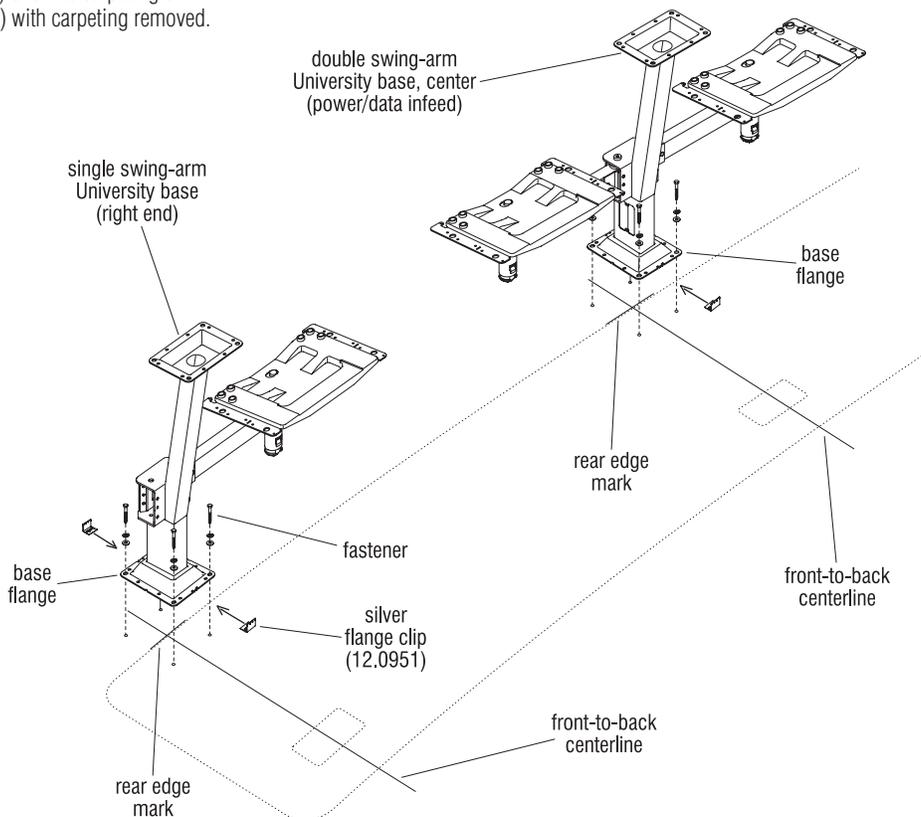

Figure 2
4. Identify which type of bases are to be installed (single or double swing-arm, and/or power infeed) along with their location according to the space-planning layout. Set the bases out at the appropriate locations. Carefully move the worksurfaces forward to make room for installation of the bases to the floor (Figure 2).
b. Position the base onto the floor over the front-to-back centerline and base position mark where the base will be installed. With the base correctly centered over the marks and lined up with the front-to-back centerline, mark around the perimeter of the base for removal of the carpeting. Cut and remove the carpeting. Carefully align the base flange onto the floor as described above and mark the anchor hole locations onto the floor (Figure 2). Read the note below and go onto step 6.
6. Bore anchor holes to minimum 1/4" x 2 3/4" hole depth for concrete floors, or 9/32" for wood floor, with flat and locking washers (not included). As illustrated, before base is attached to floor, place a flange skirt over the bottom of the base and lift it out of the way for the time being. Align the base over the pre-drilled holes and drive in (do not tighten) mounting screws (not provided). **Shim under base flange with steel washer(s) as needed to level or compensate for floor variances. See shim instructions (KI-62058) included with shim kit (Figure 2).**
8. After all bases are positioned and adjusted with shims, securely tighten base flanges to the floor (Figure 2). Do not install plastic flange covers until page 25.